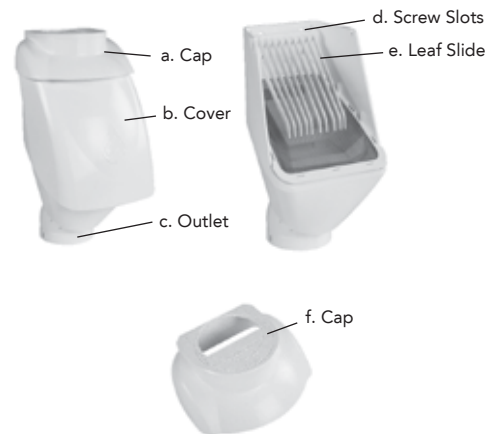

Figure 1.
6. Check the placement of the Vibrating Screen. It must sit behind and below the front face (refer figure 1).
7. Check the placement of the Vibrating Screen. It must sit behind and below the front face (refer figure 1).
8. Check the placement of the Vibrating Screen. It must sit behind and below the front face (refer figure 1).